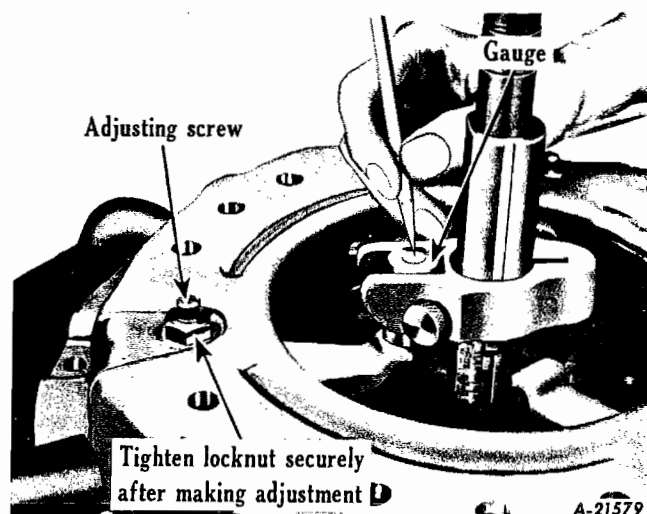

Fig. 17 - Checking lever setting.
The release levers (K) should be set to the dimensions shown in Figs. 1 to 5. Lever adjusting tool as shown in Fig. 17 can be used for accurate adjustment of levers. It is very important that all three levers be set exactly the same height. After levers are set to the correct height, the adjustment lock nuts (B) are installed and tightened securely. Care should be taken not to upset the adjustment when tightening the lock nuts.